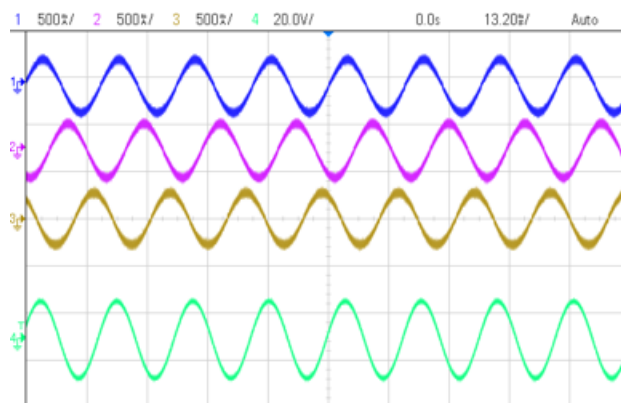

Figure 47. Build Level 4: Scope Capture IL1, IL2, IL3 and V1 (120-Vrms L-N) With Full PFC Build
5. The board will now draw sinusoidal current and the PF will be close to 0.99 and THD will be around 2.5%. The scope capture will look as shown in Figure 47.